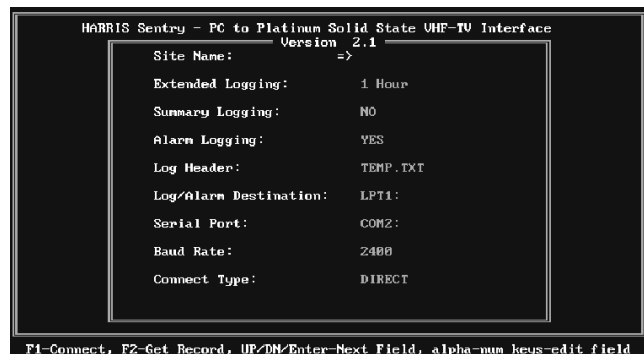

Figure 2-3
- c. The program should start immediately and should display the Site Selection and Configuration Screen (Figure 2-3).